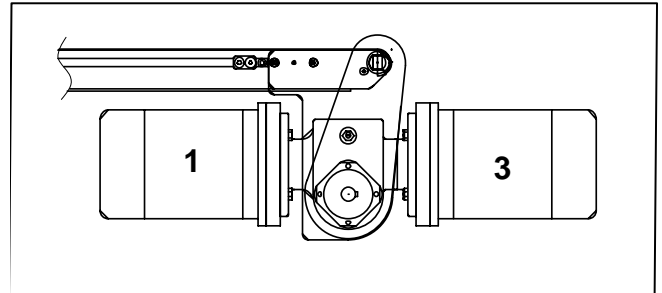

Figure 3
**NOTE:** Gearmotor may be operated in positions 1 & 3 (Figure 3).